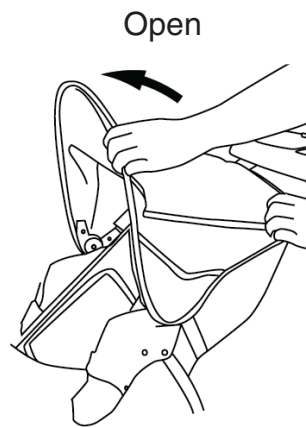

Fig. 4
8. To open the canopy: pull forward on the front edge of the canopy until fully opened. (Fig. 4)